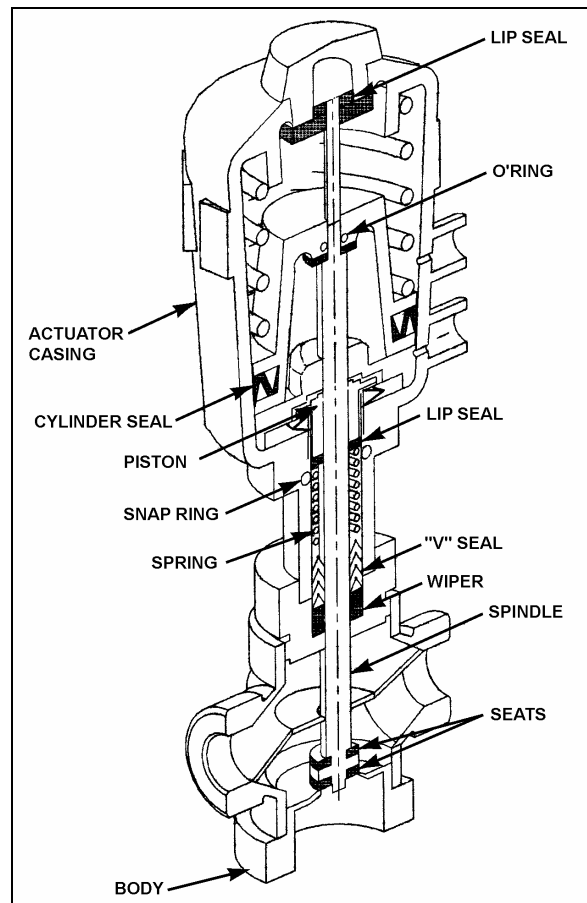

FIGURE 59: PNEUMATIC WATER VALVE 22241
- b) The water valve need not be removed from the line. Unscrew nipple, the actuator casing, tube, spindle and closure member can be removed (Fig. 59).
- b) Tighten the nipple in place in the body cavity as per figure 59. Fasten pilot solenoid valve to the pneumatic water valve. Reconnect air supply pressure and electrical current to the pilot solenoid valve.